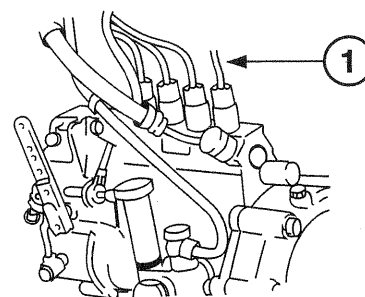

Figure 14: Fuel Injection Lines
- b. Remove the fuel injection line from the No. 1 fuel delivery valve on the injection pump (Figure 14).